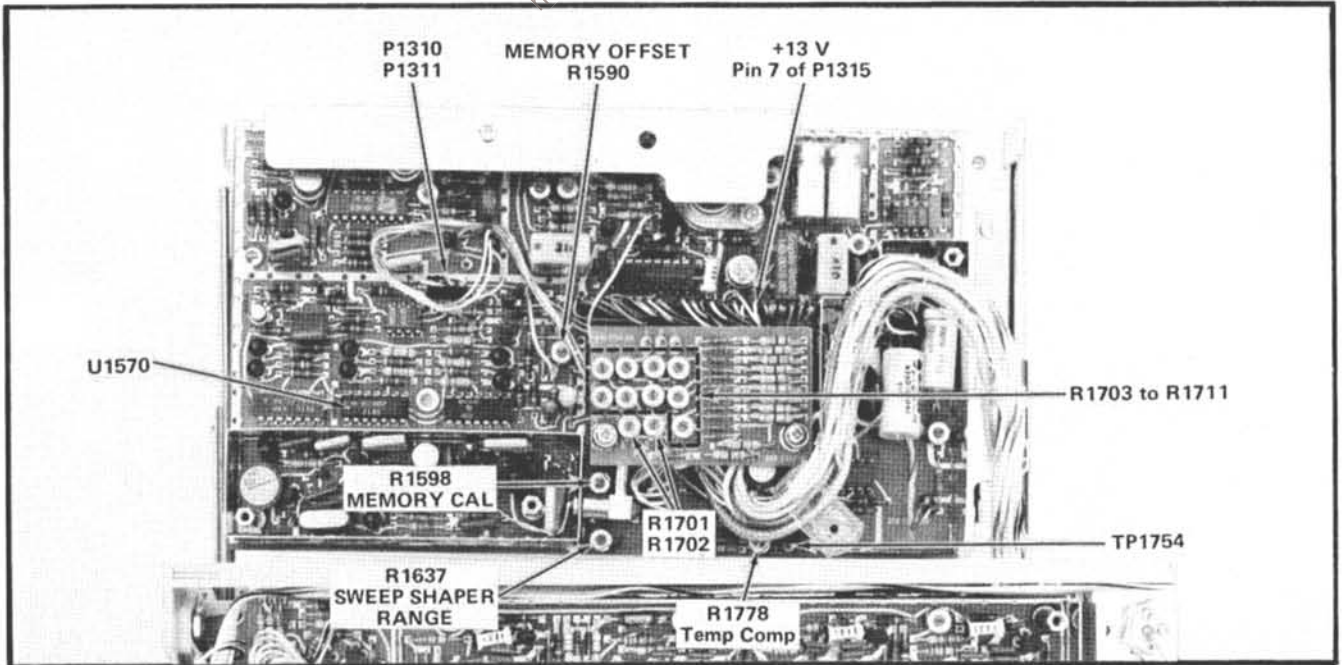
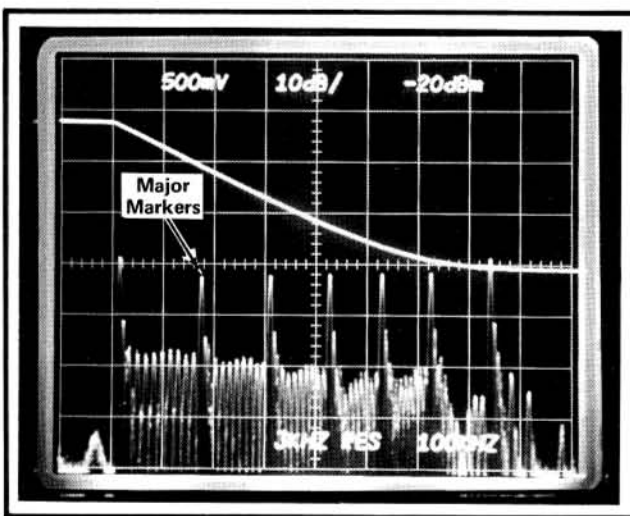

Fig. 4-7. 2nd LO and sweep shaper adjustments and test points.
Fig. 4-8. Chop mode display, that illustrates; the sweep ramp to the sweep shaper circuit at TP1754 and the analyzer display of the frequency markers.
a. Establish a 0 V reference for the vertical amplifier display, by grounding the probe tip and position the trace to the graticule center. Now connect the 10X probe to pin 7 of P1315 on the phase lock board (Fig. 4-7).
b. Adjust Temp Comp R1778 (Fig. 4-7) for +13 V DC at pin 7 of P1315. (+ supply to the 2nd LO.)
c. Change the probe from pin 7 of P1315 to TP1754 (Fig. 4-7).
d. Preset R1701-R1702 (sweep shaper board) and R1637-R1598 (Fig. 4-7) fully CCW. Preset R1703 through R1711 (on the sweep shaper board) fully CW.
f. Adjust the FINE frequency control to center the sweep shaper voltage ramp and the markers on screen (see Fig. 4-8). Note: The number of markers may not equal those displayed in the illustration and it may be necessary to adjust R1637 (Fig. 4-7) to shift the display so it is within the graticule area.
g. If the 2nd LO is sweeping 6.5 MHz (6 to 7 major markers under the ramp, see Fig. 4-8) the Sweep Range of the 2nd LO requires no further adjustment. If the sweep range is incorrect, the Varactor assembly coupling (into the tuned cavity for the 2nd LO) must be changed. This is accomplished as follows:
**7. Adjust the Sweep Shaper (Fig. 4-7)**
d. Replace U1560 and pull P1311 (Fig. 4-7).